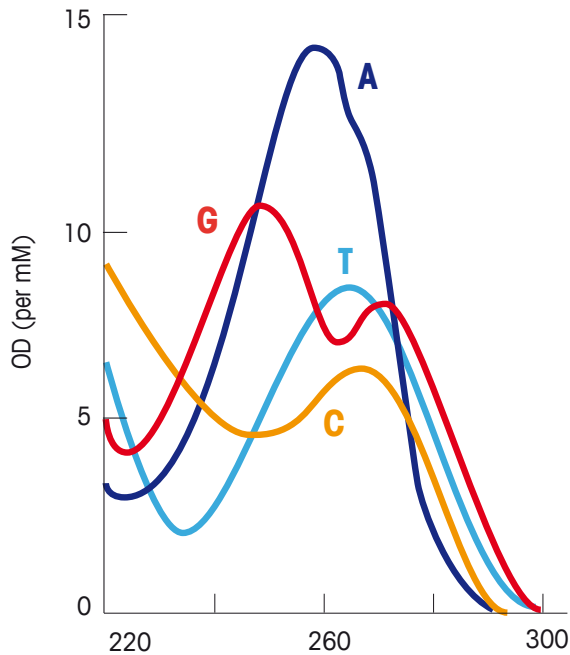

Figure 5: Absorbance spectrum of adenine (A), thymine (T), cytosine (C) and guanine (G)
The easiest and fastest method for DNA concentration determination is the measurement of absorbance at 260 nm. In this wavelength range, the aromatic ring structures of the bases adenine (A), thymine (T), cytosine (C) and guanine (G) exhibit their highest absorbance (Figure 5).